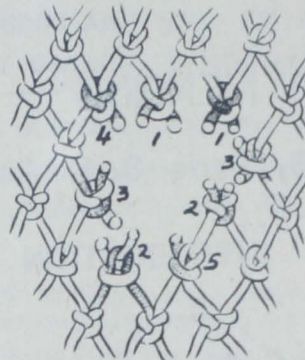

FIG. 2 - DAMAGED AREA
In net repairing, the knot is referred to by name, according to the position it has in the damaged area. As numbered in Figure 2, the names used are:
4. Starter three-legger--a knot having three strands intact and only one strand cut off (4 in Figure 2).
5. Finishing three-legger--a similar type knot to the starter three-legger (5 in Figure 2). The importance of the three-legger knots is that the mending is started and finished on those knots. This particular point cannot be over-emphasized.